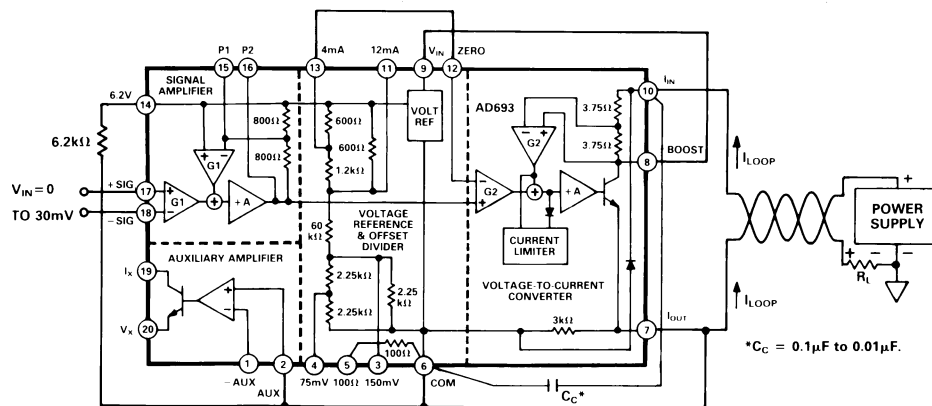

Figure 10. Minimal Connection for 0–30 mV Unipolar Input, 4–20 mA Output
| Output Current 13                                     | Loop Powered, (Figure 10)  | +3.0          | +3.5                    |                           | mA                           |
- 6The operational voltage ( $V_{OP}$ ) is the voltage directly across the AD693 (Pin 10 to 6 in two-wire mode, Pin 9 to 6 in local power mode). For example,  $V_{OP} = V_S - (I_{LOOP} \times R_L)$  in two-wire mode (refer to Figure 10).
Figure 10 shows the minimal connections for basic operation: 0–30 mV input span, 4–20 mA output span in the two-wire, loop-powered mode. If not used for external excitation, the 6.2 V reference should be loaded by approximately 1 mA (6.2 k $\Omega$  to common).